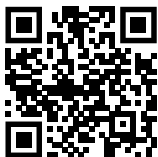

Fig. 113
- Atveriet Liebherr SmartMonitoring Dashboard. (skat. Fig. 113)